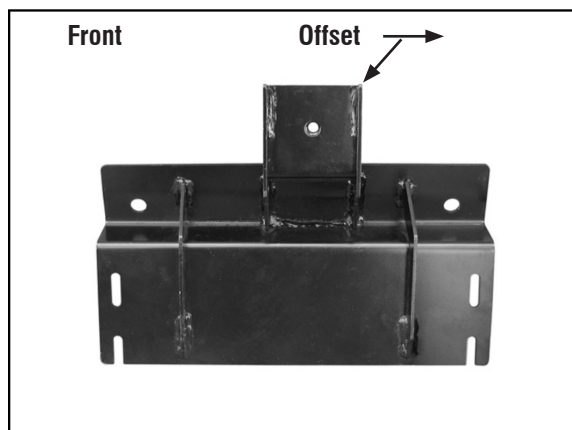

Fig. 4
Hold the Front Bracket over the bolt plates and line up the (2) mounting holes. (Fig. 4) Secure the bracket to the bolt plates with (2) 10mm Flange Nuts. Do not tighten hardware at this time.